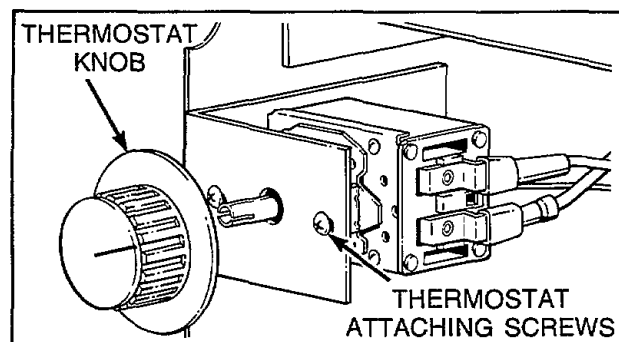

Figure 9
- c. Pull thermostat knob off thermostat shaft, Figure 9.
- e. Remove two Phillips head screws holding thermostat to mounting bracket, *Figure 9*.